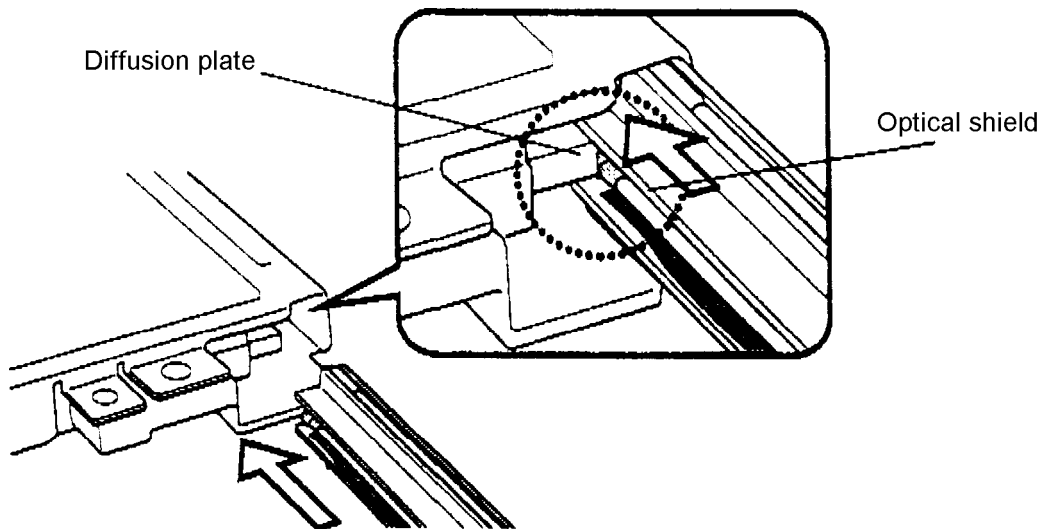

Figure 4-46 Inserting the FL
2. Insert the tip of the **FL** into its slot (Figure 4-46).